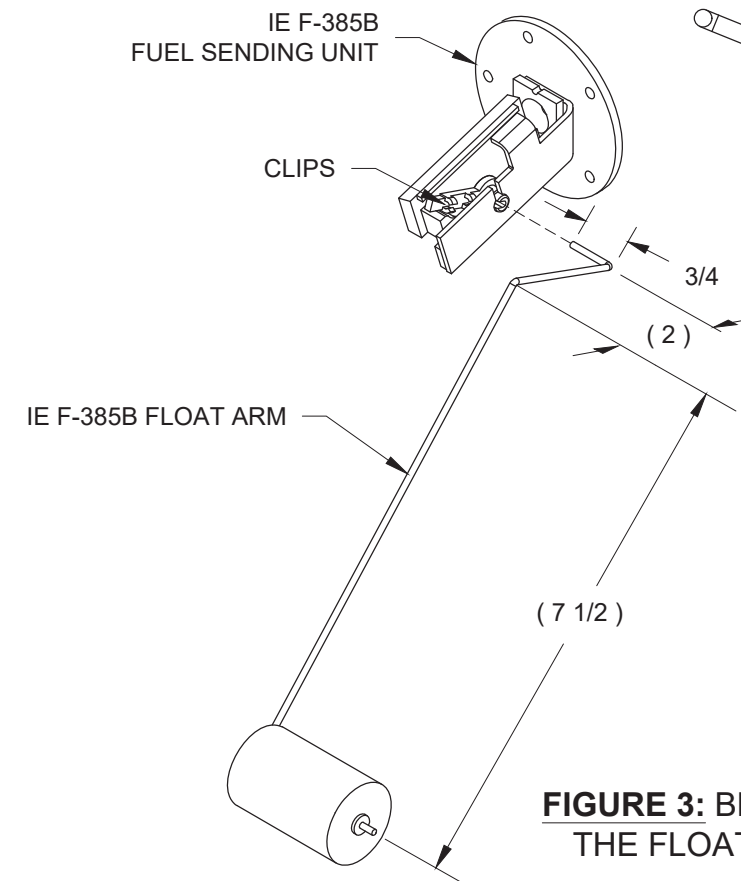

FIGURE 3: BENDING THE FLOAT ARM
Step 6: Use a vise to bend the IE F-385B Float Arm per the dimensions given in Figure 3 and the full scale template in Figure 4 (Check printed scale 1:1 per Section 3 before using the template). Insert the float arm into the IE F-385B Fuel Sending Unit. See Figure 3. Snap the float arm into the clips on the fuel sending unit.